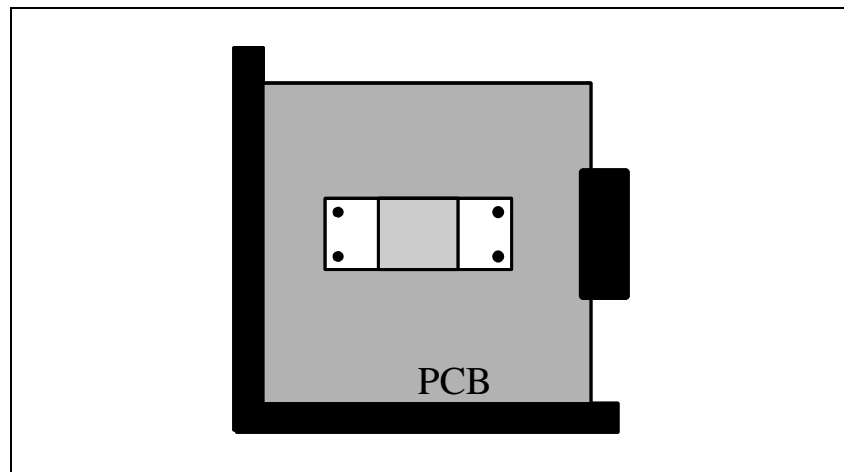

Figure 5-20. Calibration plate on the PCB
3. When prompted, insert a clean PCB on the lower left end of the Y wagon. Place your calibration plate upside down on the PCB according to figure 5-20.